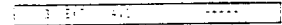

Fig.9.
- 6 Using $\Delta+$ or $\nabla-$, select C (to preset a regular channel), or F (to tune in by frequency) and press OK. The first element of the "CH" number will be highlighted. If you have selected EXT in step 5, select the video input source with $\Delta+$ or $\nabla-$. (See Fig. 9.)